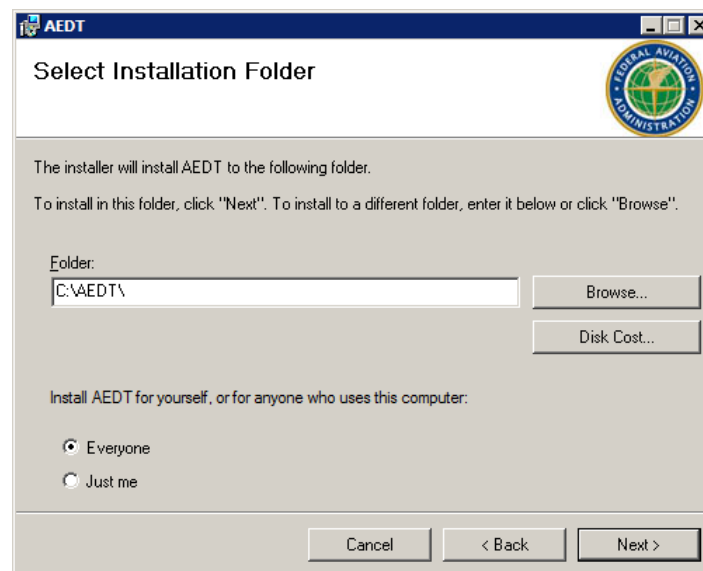

Figure 2-22 AEDT Setup Wizard – Select Installation Folder
6. Select installation folder – accept the default location C:\AEDT\ (Figure 2-22).